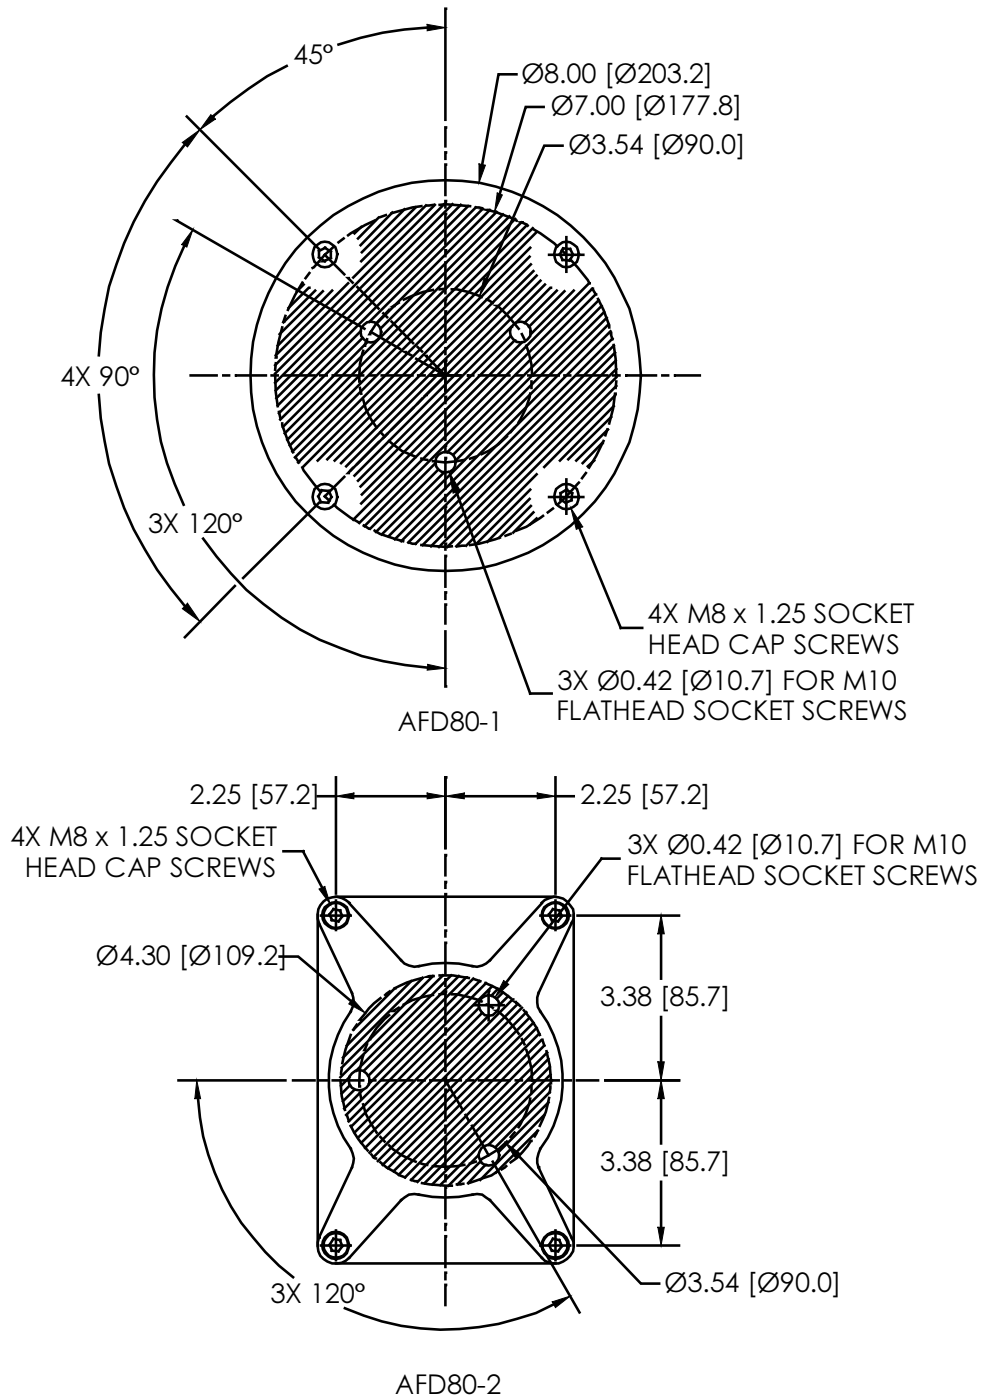

Figure 2. AFD80-1 and AFD80-2 Mounting Brackets
The *AFD80-1* and *AFD80-2* are supplied with a standard Mounting Bracket shown in Figure 2. A minimum of (3) three holes should be utilized to secure the Mounting Bracket to the robot mounting flange.
If the Mounting Bracket is supplied blank or additional holes are required, it must first be removed from the device before drilling. (4) Four M8x1.25 Socket Head Cap Screws are used to attach the Mounting Bracket to the *80 Series* force devices. Once the Mounting Bracket is removed, mounting holes may be placed anywhere within the crosshatched area shown in Figure 2. *PushCorp, Inc.* will supply engineering support to determine the mounting hole locations at no cost.